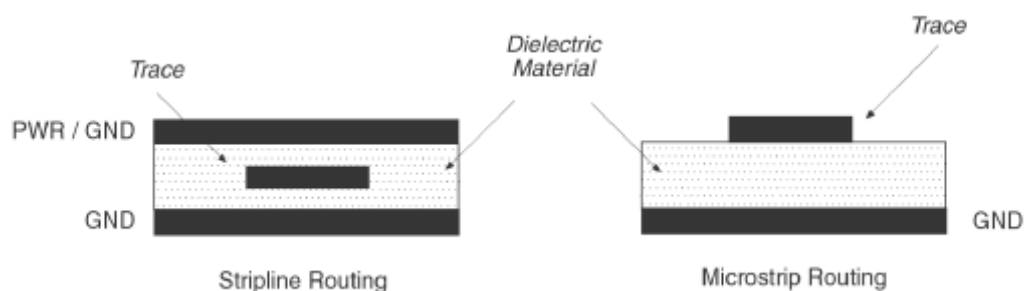

Figure 3. Stripline & Microstrip Signal Routing
Transmission line effect and modeling is another factor to affect signal performance and noise separation. Transmission line is a trace, and has a distributed mixture of resistance (R), inductance (L), capacitance (C) and conductance (G). There are two types of transmission line layouts: Microstrip and Stripline. *Figure 3.* shows the two types of transmission line layouts.